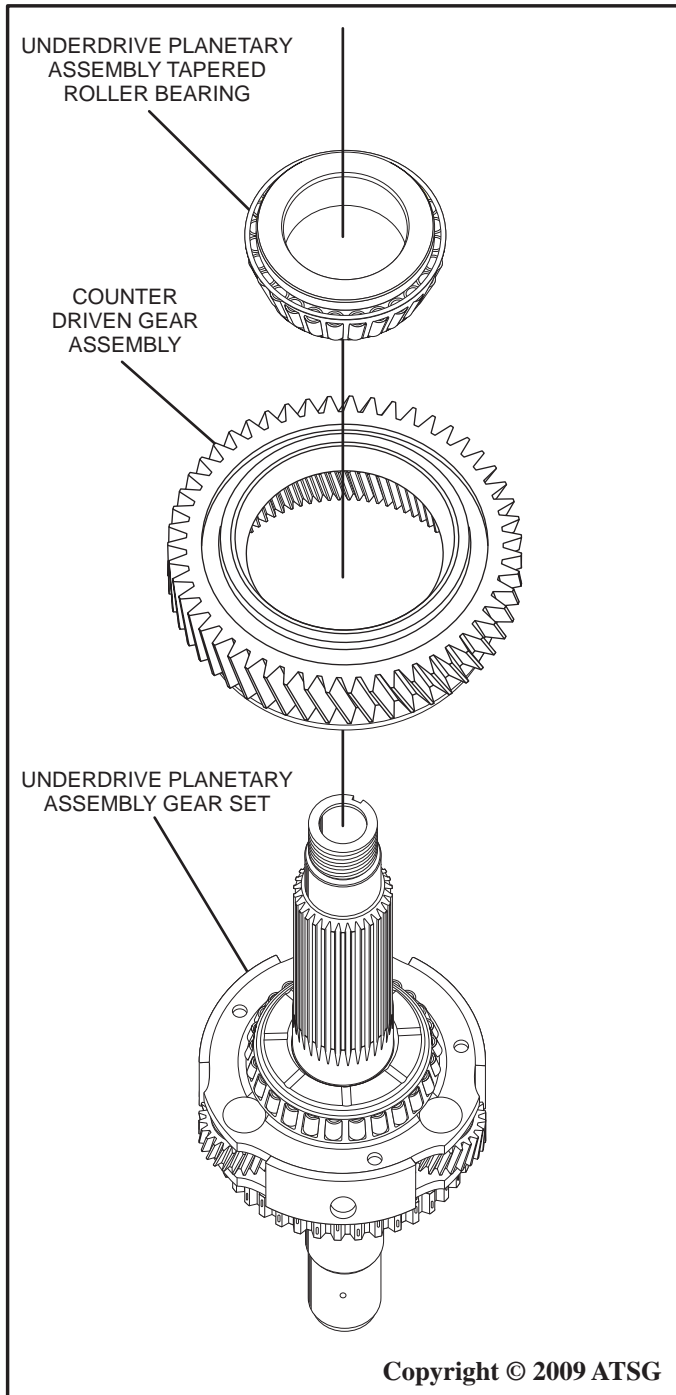

Figure 75
10. With the underdrive planetary assembly gear set still in the suitable press, lubricate the tapered roller bearing inner race with a small amount of ATF and place the counter driven gear assembly on the underdrive planetary gear set as shown in Figure 75.